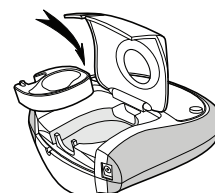

Figure4
- 2 Insert the cassette with the label positioned between the print head and pinch roller. See Figure 4.